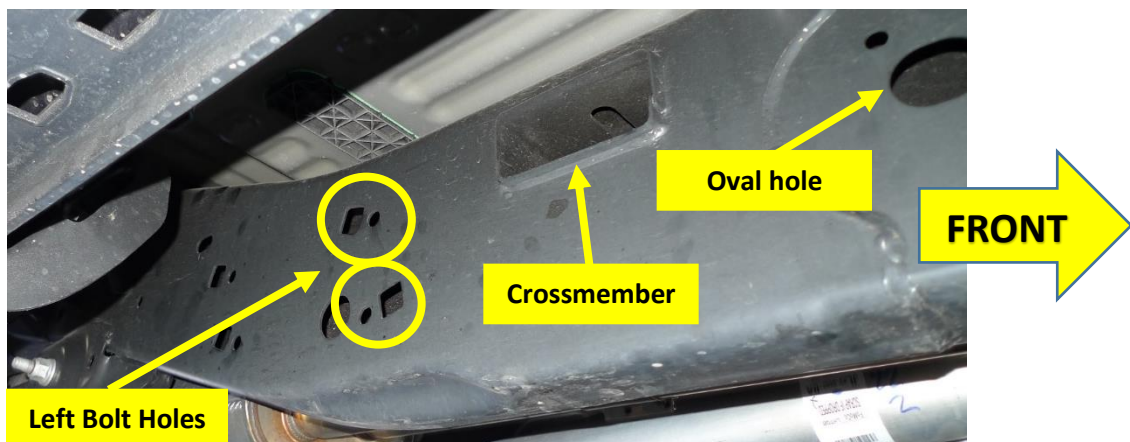

Figure 10 - Passenger Frame Rail Hole Locations, under rear door
10.1.2. Locate two holes on same section of frame, under rear door, as shown in Figure 10 below.